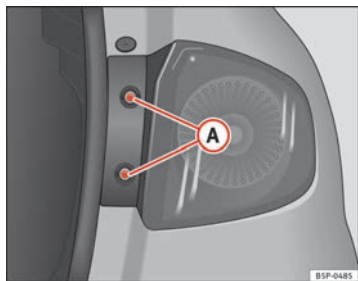

Fig. 191 Side lights and brake lights
- Remove the bolts ⇒ fig. 191 **A**.